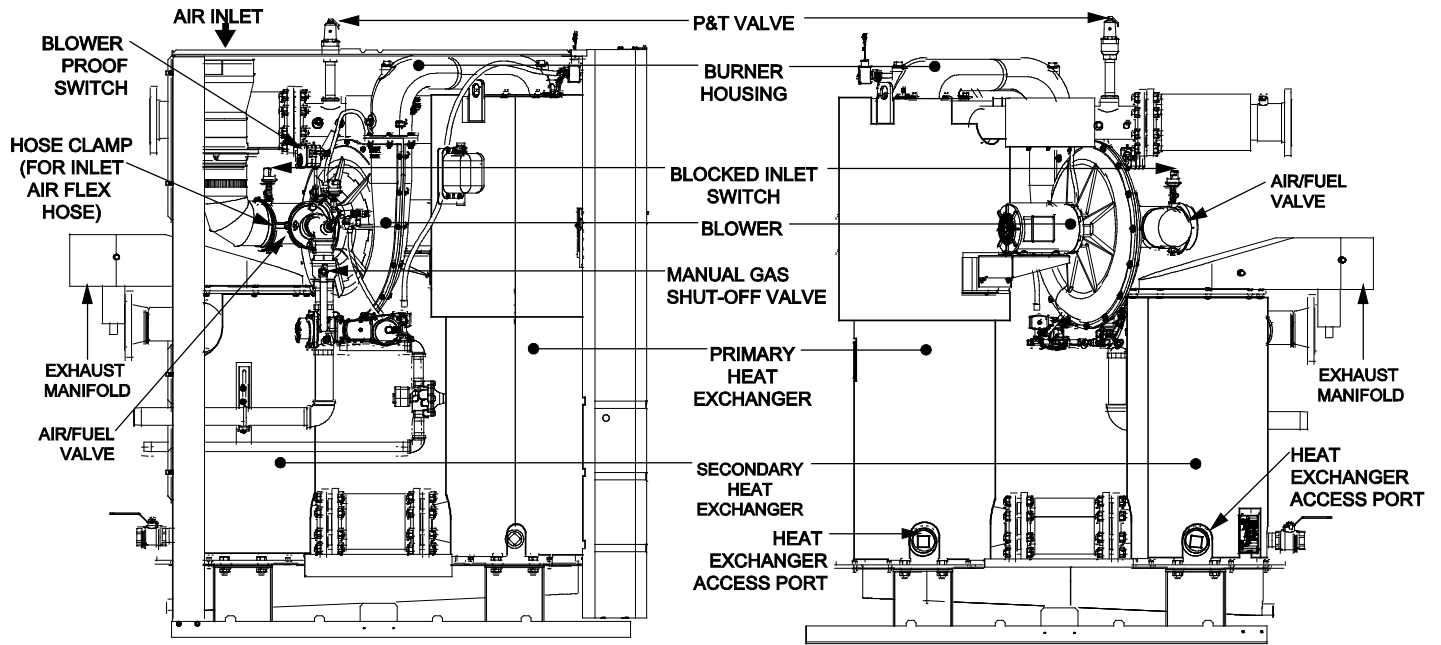

Figure 2: Benchmark 3.0LN - (Left Side and Right Side Views)
Benchmark 3.0LN Models contain both a primary and secondary heat exchangers, as shown in Figure 2. Perform the waterside inspection as follows:
4. Open the P&T relief valve (Figure 2) to allow air to enter the heat exchanger during draining.
5. After both heat exchangers have been drained, remove both 2-1/2 inch access port plugs on the right side of the heat exchangers as shown in Figure 2.